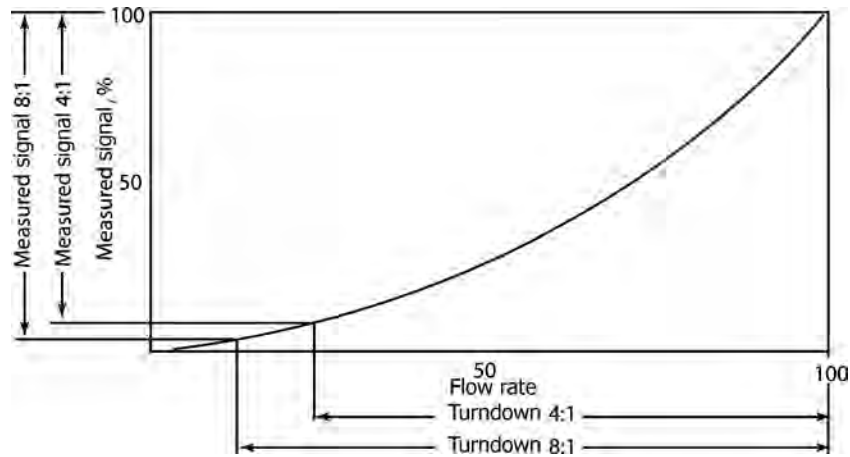

FIGURE 4.1 Turndown ratios.
- Turndown ratios are illustrated in Figure 4.1.